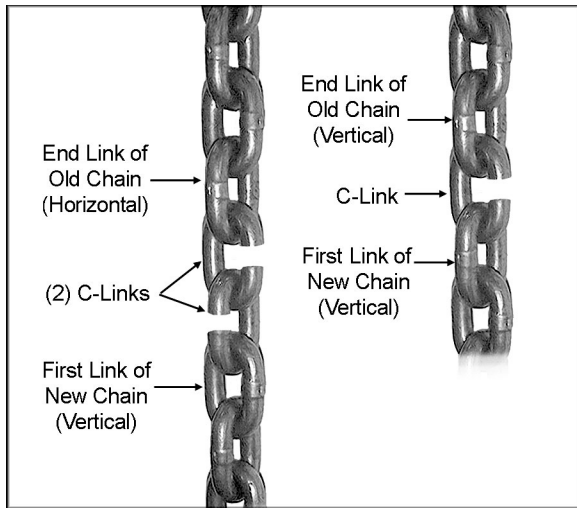

Figure 14
4. Using a C-link(s), connect the new chain to the old chain. If the end link of the old chain is horizontal, use two C-links. If the end link of the old chain is vertical, use one C-link. See Figure 14. Using the correct number of C-links will properly orient the chain, and ensure that the first link on the load side end is a vertical link.